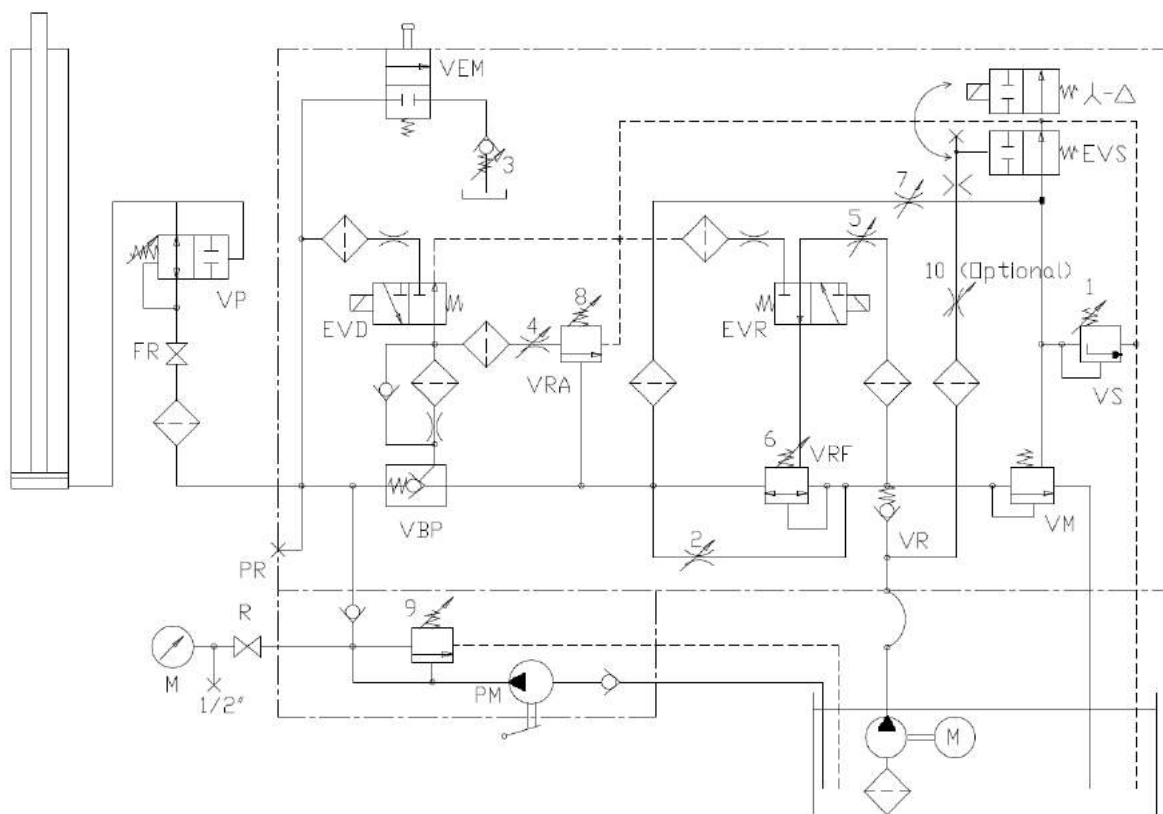

Figure 30 – Hydraulic scheme SF 1855 valve type “NL”
In case a pre-determined pressure is reached inside a pressure switch, an electrical contact, which can be switching, opening or closing, is activated. Pressure switches with different insulating classes, different precision levels or different hysteresis are also possible. The following drawings show three types of pressure switches and two types of contacts. The regulation of the intervention pressure is obtained through single-slot screw which lays in the centre of the pressure switch (see Figure 29): Turn clockwise, the intervention pressure increases, turn anti-clockwise, it decreases. The pressure switch is assembled on the NL valve block and lays directly on the pressure line which gets to the cylinder, before the piloted rupture valve VBP (see also Figure 30). Consequently it is always under pressure.
- The hydraulic diagram SF 1855 of the valve type NL is shown on the following Figure 30